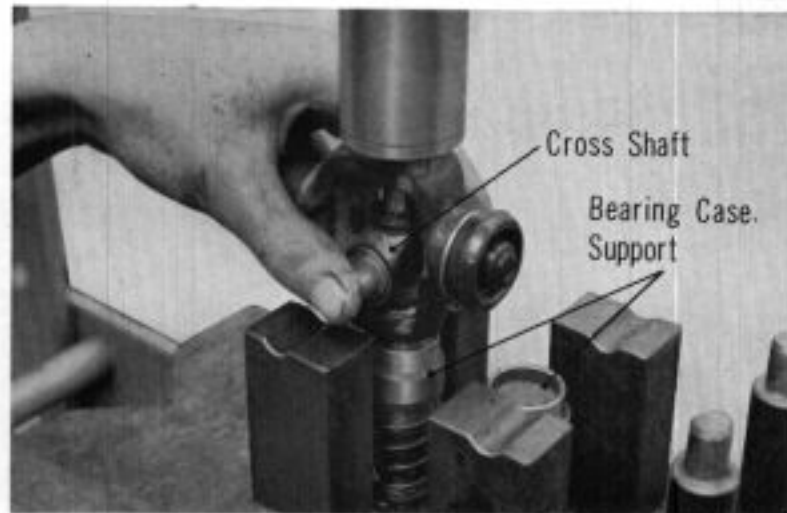

Fig. 9B-44
24. Set the base in a press, and mount the cross shaft onto the base while holding it so that it does not dislocate from the bearing case. (Fig. 9B-44)